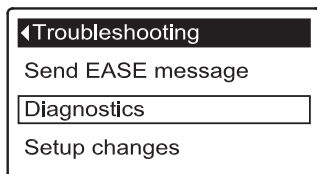

FIG. 149
2. To display the Diagnostics screen from any of the rolling status screens (when an error code is not displayed), press the SELECT (O) button to display the **Main menu**.
4. Press the SELECT (O) button to display the Advanced settings menu.
6. Press the SELECT (O) button to display the Troubleshooting menu (See Figure 149).
1. From any of the rolling status screens, press the SELECT (O) button to display the **Main menu**.
3. Press the SELECT (O) button to display the Advanced settings menu.
5. Press the SELECT (O) button to display the Troubleshooting menu (See Figure 149).
- **Cancel** will return to the Troubleshooting menu (Figure 149).
9. Press the SELECT (O) button.